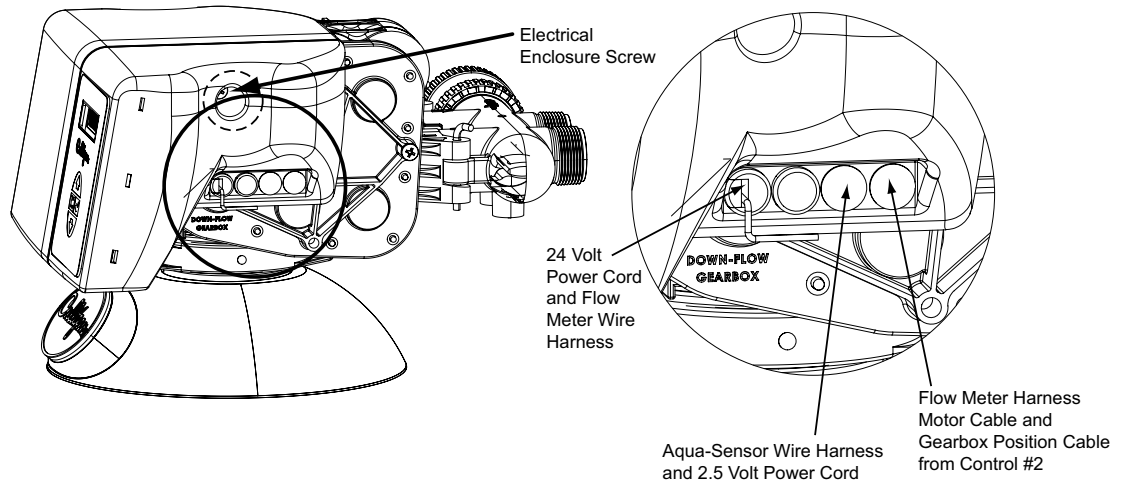

Figure 19. Circuit board connections.
1. Remove the electrical enclosure from the control valve. First remove the electrical enclosure screw and then gently remove the enclosure from the control. Refer to Figure 19 and below instructions.